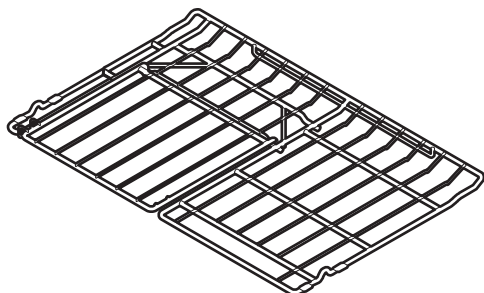

Figure 2
- **Flat oven half rack** (Figure 2 & 3).
The **Flat Oven Half Rack** has a removable insert that can provide extra space for larger food items. The right half rack portion may still be used for other food items like a casserole dish (See Figure 2 & 3). To remove the insert, squeeze on the left front insert side (See Figure 4) of the rack and tilt out clockwise. To reinstall, insert rear hooks at back of insert (See figure 4) and lay insert down. Make sure both insert front hooks snap into rack (See figure 5).